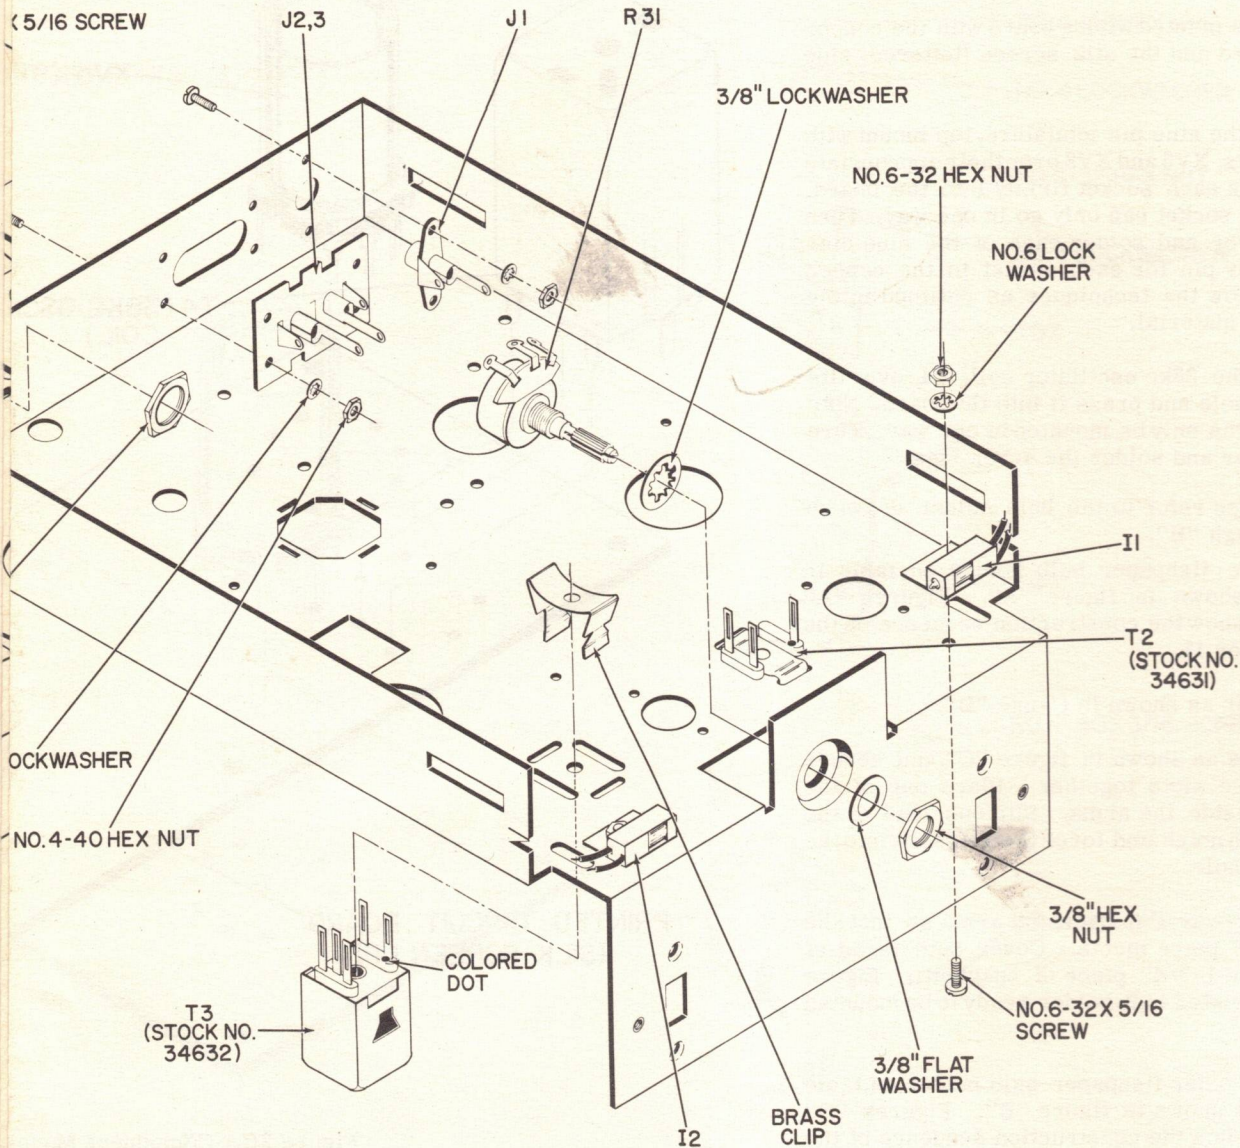

Figure 3C. Bottom Chassis Mounting (Cont'd.)
- (✓) 4. Fold the cover flap over the arms so that the holes on each piece meet. Cover both leads of the bulb with 1-3/4" piece of spaghetti. Figure "D" is a completed bulb holder ready to be mounted in figure 3c.
The following steps refer to figure 3c.